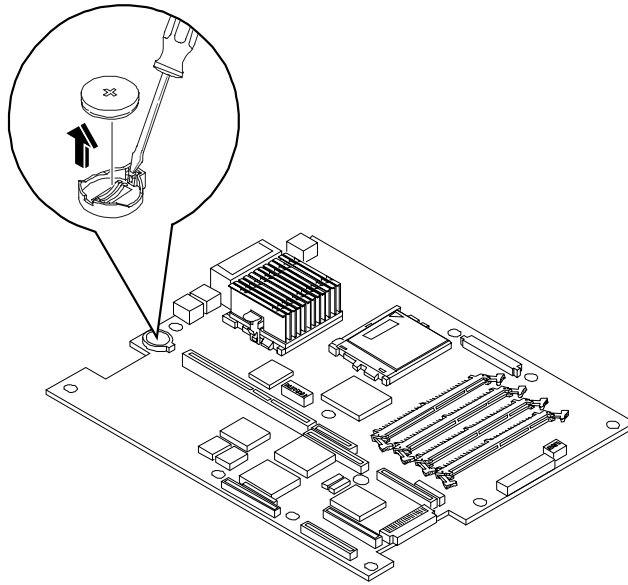

Figure 12-3. Battery on System Board
5. Insert a small flatblade screwdriver or similar tool between the battery and spring latch. See Figure 12-3.